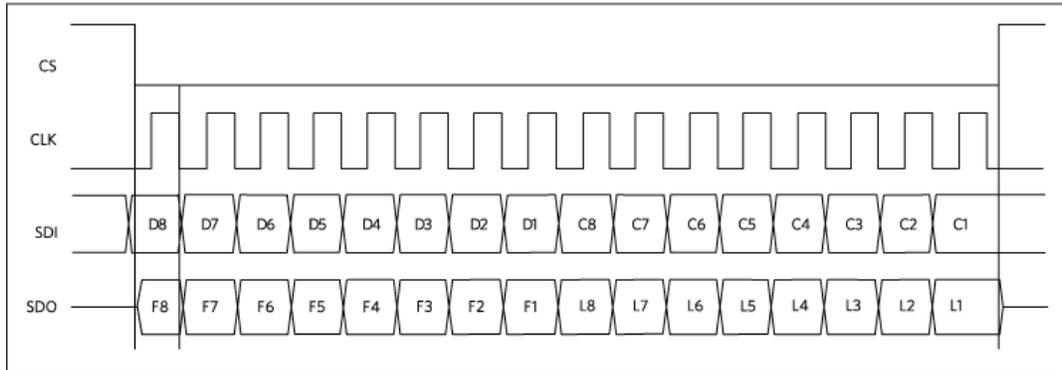

Figure 1. 16-bit direct SPI mode.
Fault (F) and output level (L) diagnostic is available on the SDO pin during direct-mode write (refer to **Figure 1** and **Table 3**).